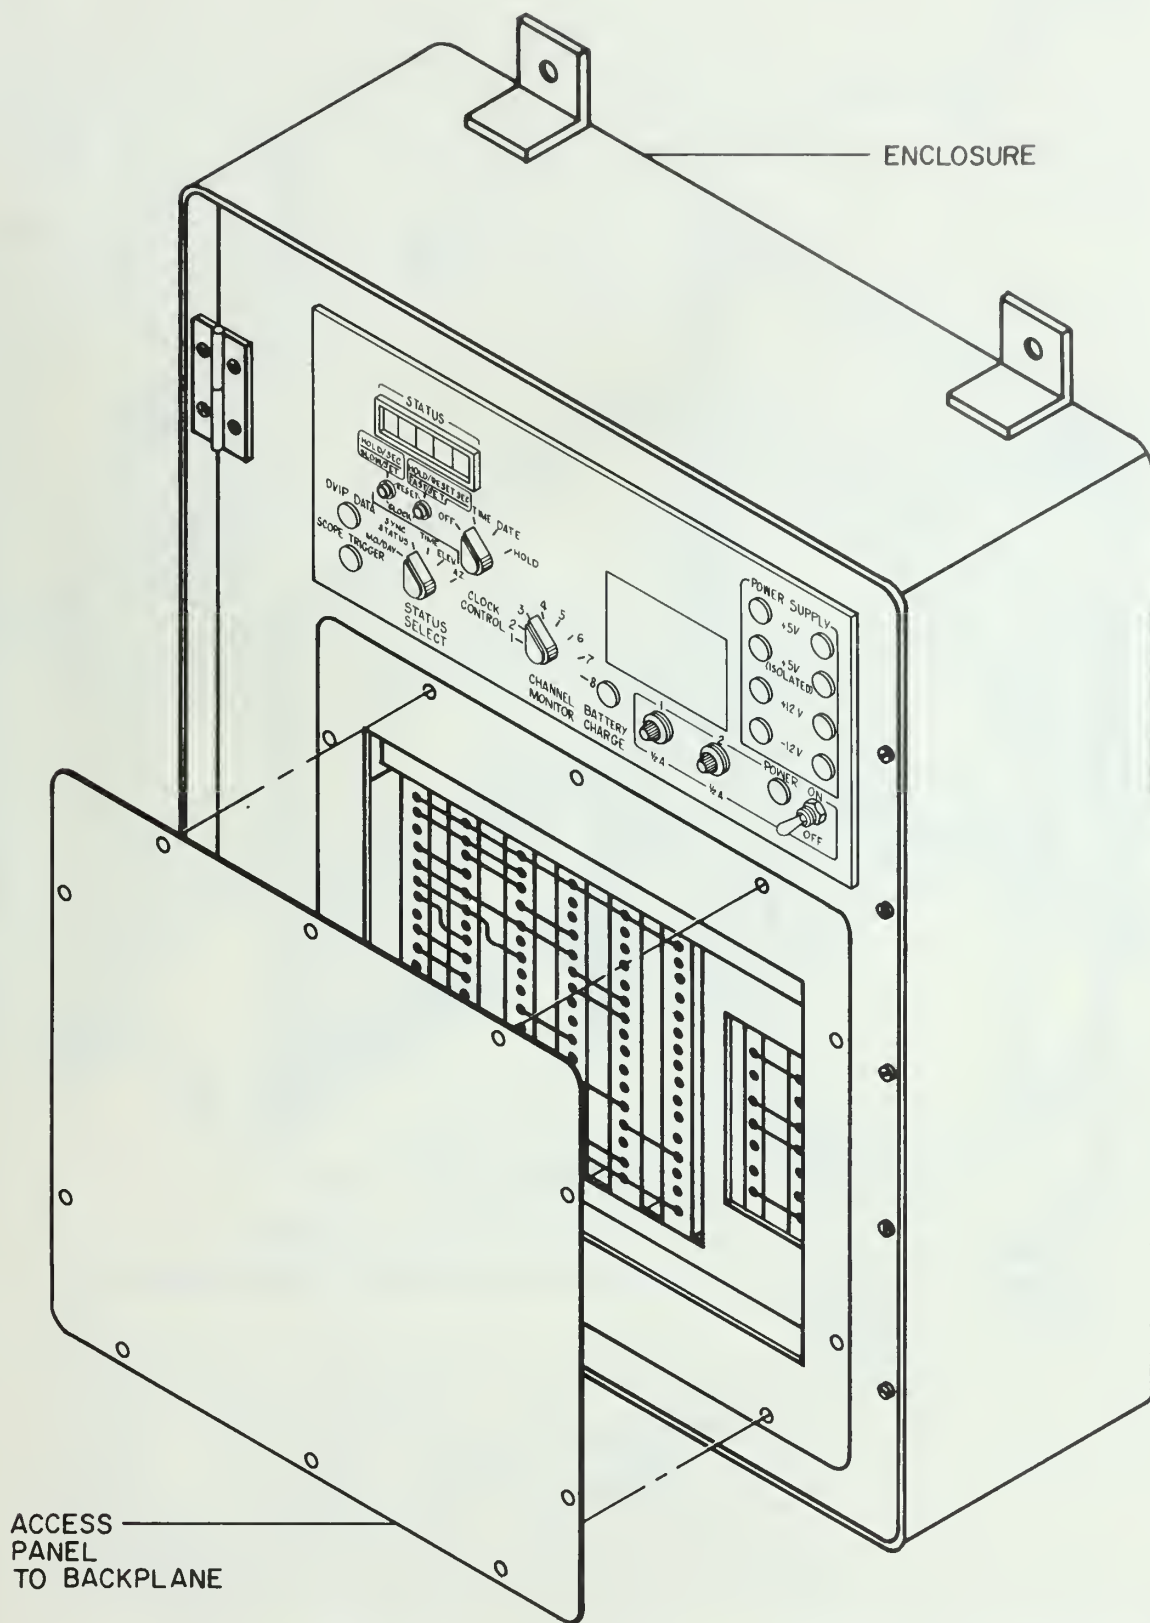

Figure 1-2. Isolation Distribution Equipment — Front Access Panel Removed
**1.2.3 Equipment Description.** — The physical arrangement of the IDE is shown in figures 1-2 through 1-4. The major physical assemblies are described in paragraphs 1.2.3.1 through 1.2.3.3